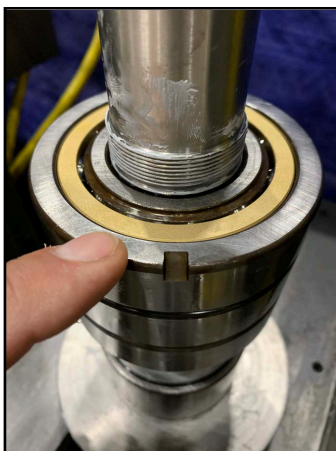

Figure 294 -Second bearing installed
23. Figure 294 shows the second four point angular contact bearing installed.